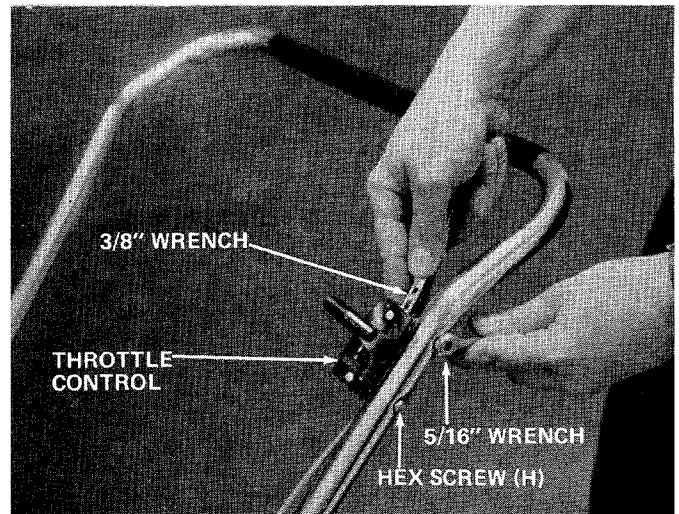

FIGURE 5
- Place the throttle control to the inside of upper handle as shown in figure 5. Secure with hex screws (H) and lock nuts (I). A 3/8" wrench and a 5/16" wrench is required. Tighten securely.